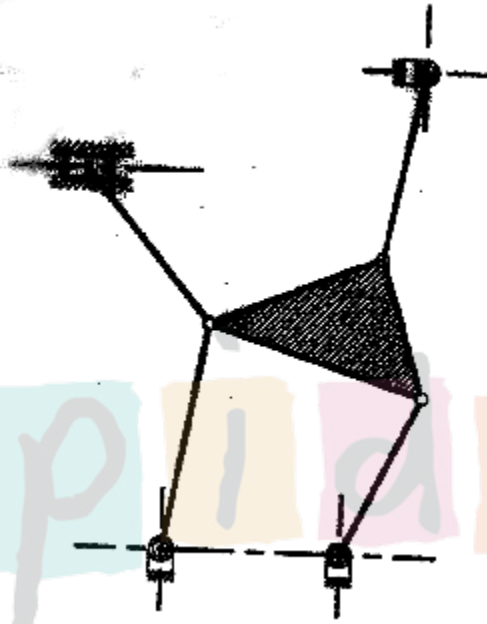

Fig. 1
- (b) Fig. 1 shows schematic of a mechanism. Redraw the sketch on the answer-book. Find out the total number of kinematic links and number of kinematic pairs. Hence find out the degrees of freedom for the mechanism. [4]